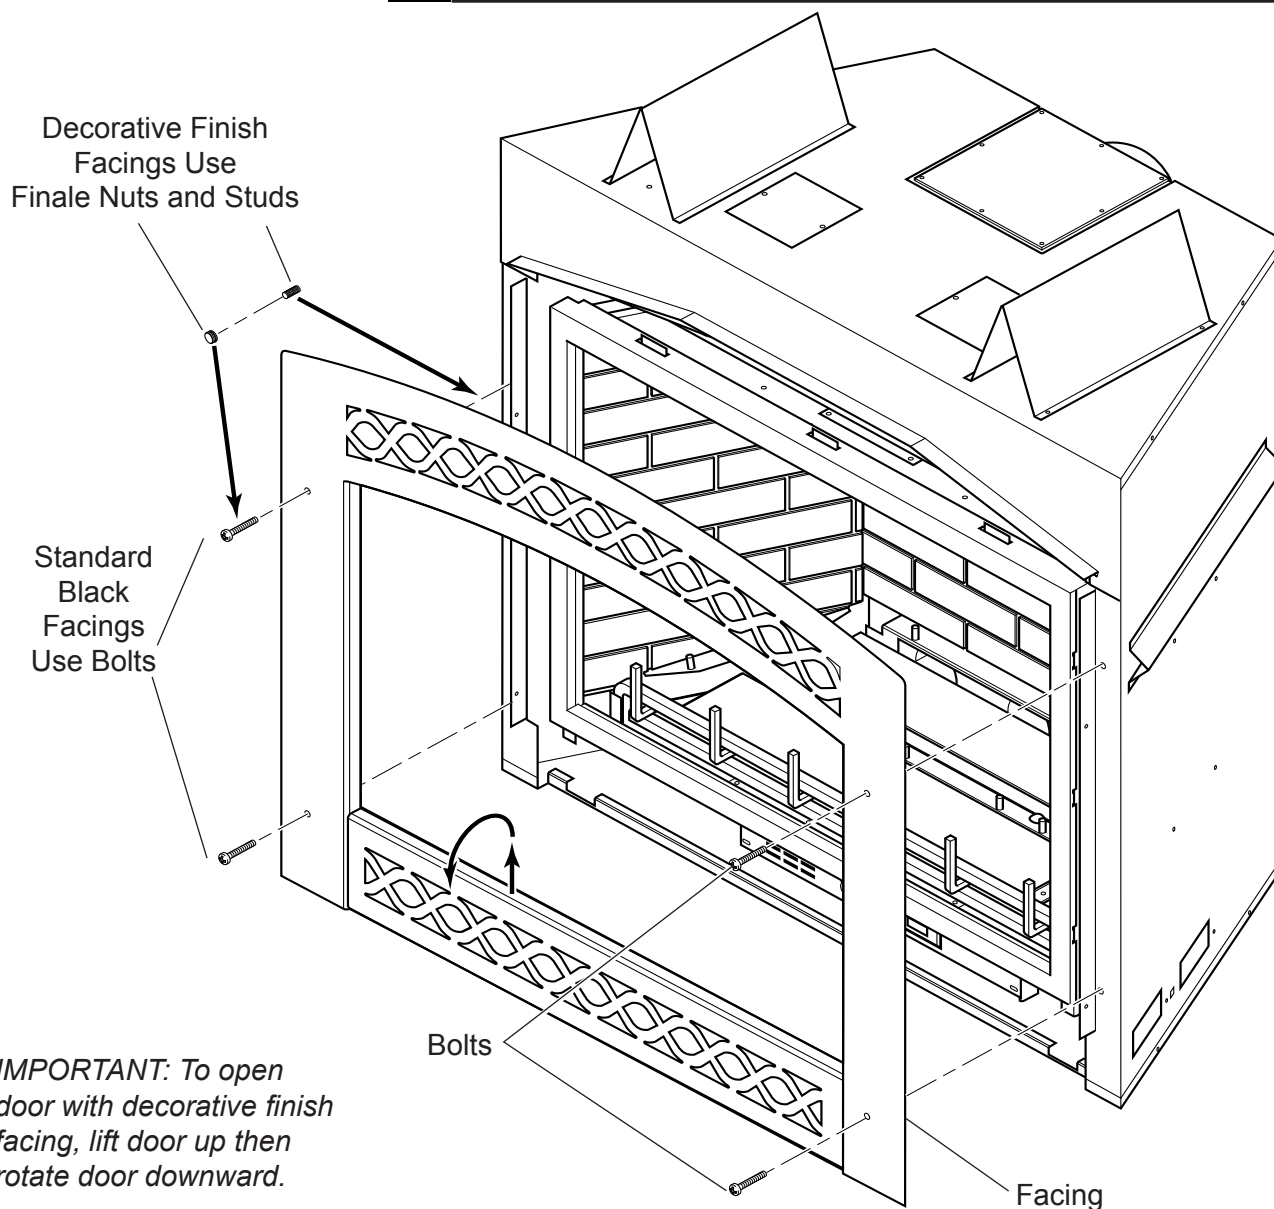

Figure 53 - Installing Filigree Facing
1. Line up four (4) holes on facing with four (4) holes on fireplace. See *Figure 53*.
2. Attach facing with four (4) fasteners provided. See *Figure 53*.